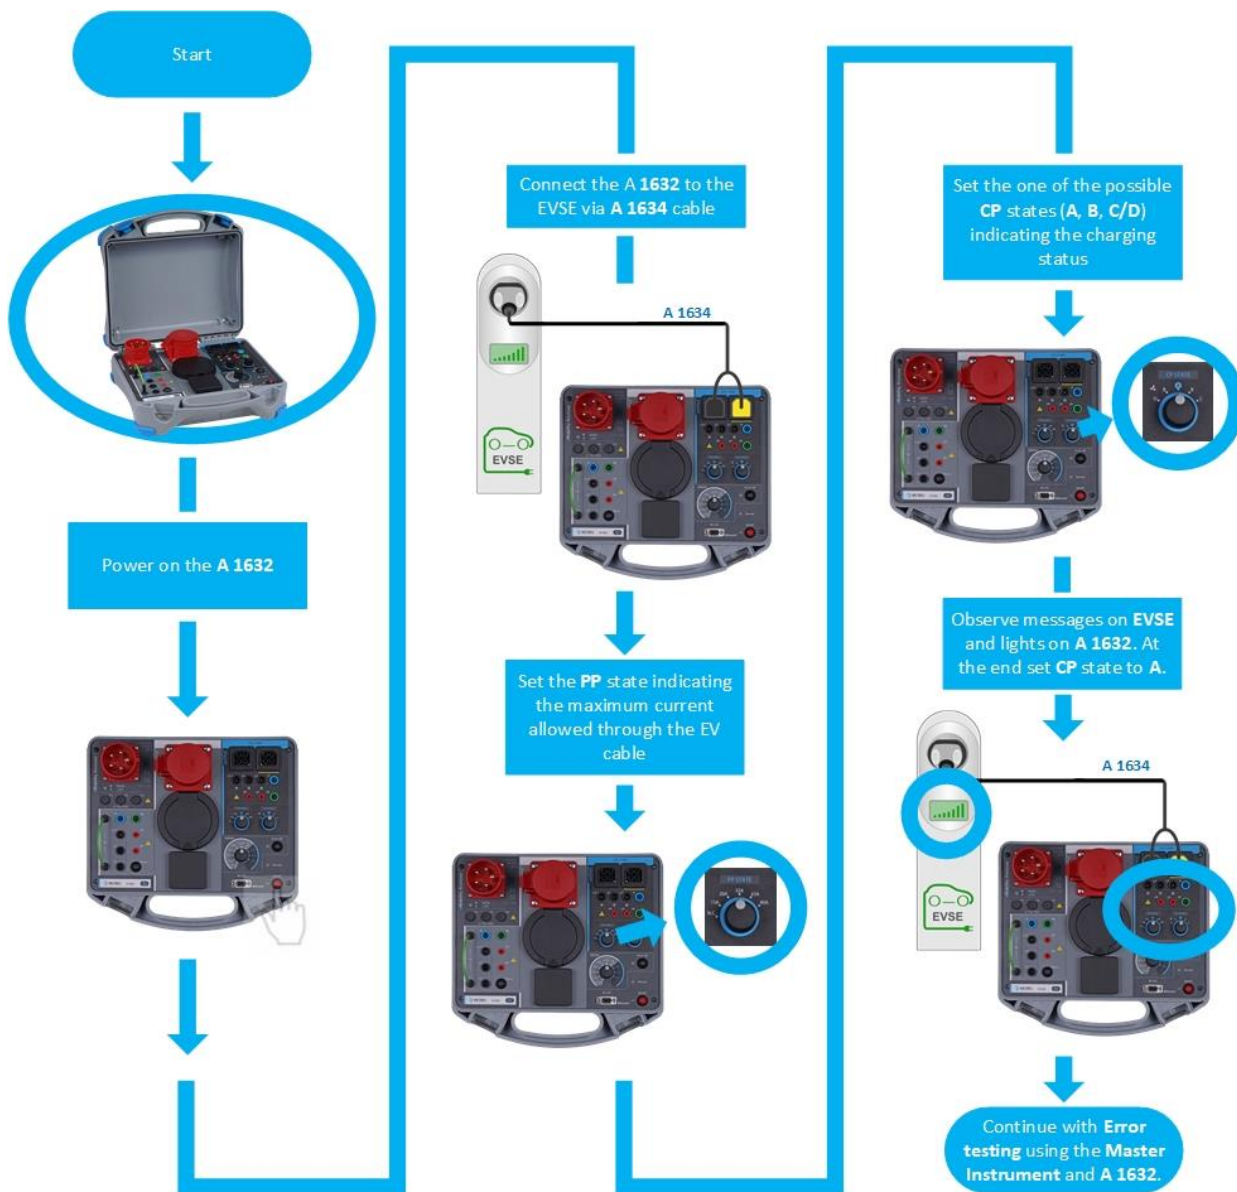
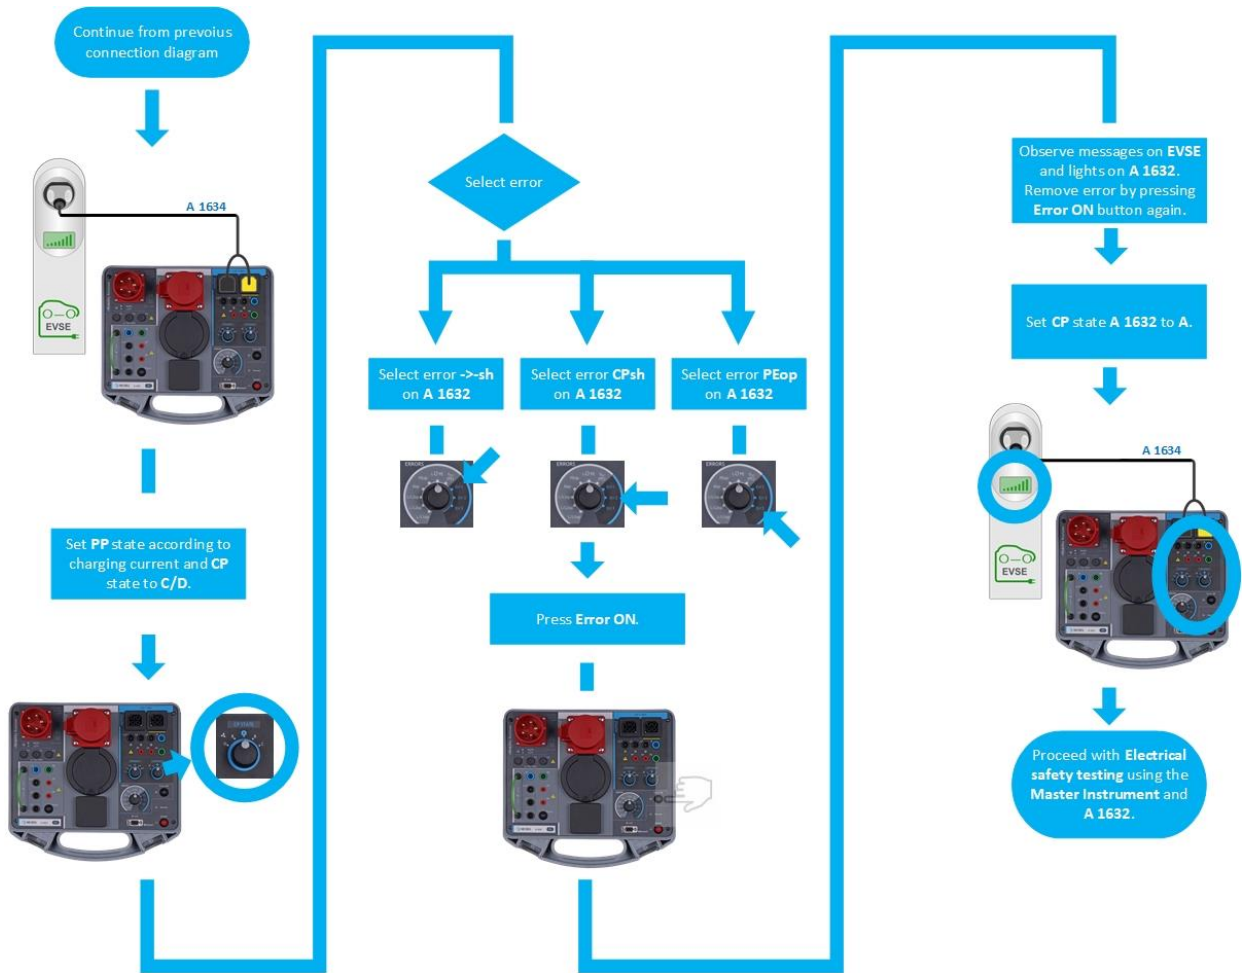

Figure 6.3: Manual functional EVSE testing
Figure 6.4: Manual diagnostic testing
If the intention is only to test whether or not the EVSE reacts accordingly to the initiated electrical vehicle (EV) states and error situations, then the manual functional testing is sufficient. In this case the procedures described below in Figure 6.3 and Figure 6.4 should be performed.